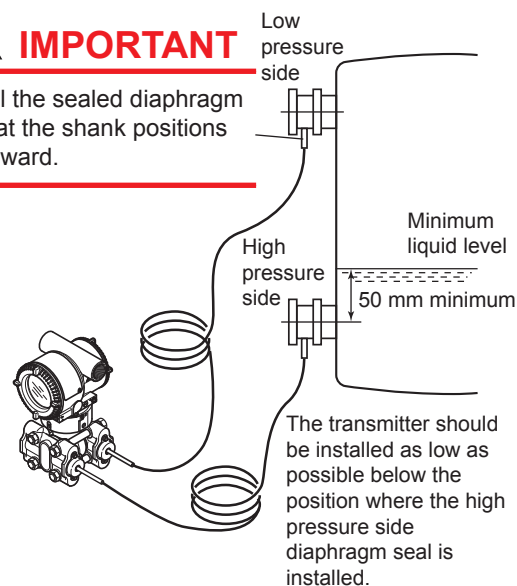

Figure 3.7 Installing the Diaphragm Seals to a Tank
- When measuring the liquid level of the tank, the minimum liquid level (zero point) must be set to a level at least 50 mm above the center of the high pressure side diaphragm seal (see Figure 3.7).